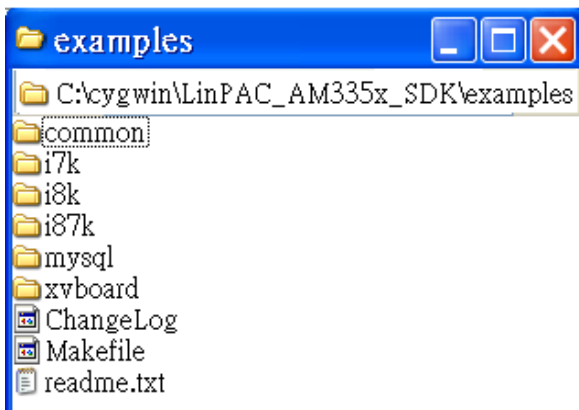

Fig. 3-15
8. From the desktop, double-click the shortcut icon for the “**LinPAC AM335x Build Environment**” or click the “**Start**” > “**Programs**” > “**ICPDAS**” > “**LinPAC AM335x SDK**” > “**LinPAC AM335x Build Environment**”. A Command Prompt window will then be displayed that allows applications for the LP-2241 to be compiled. Refer to Fig. 3-15 and Fig 3-16.